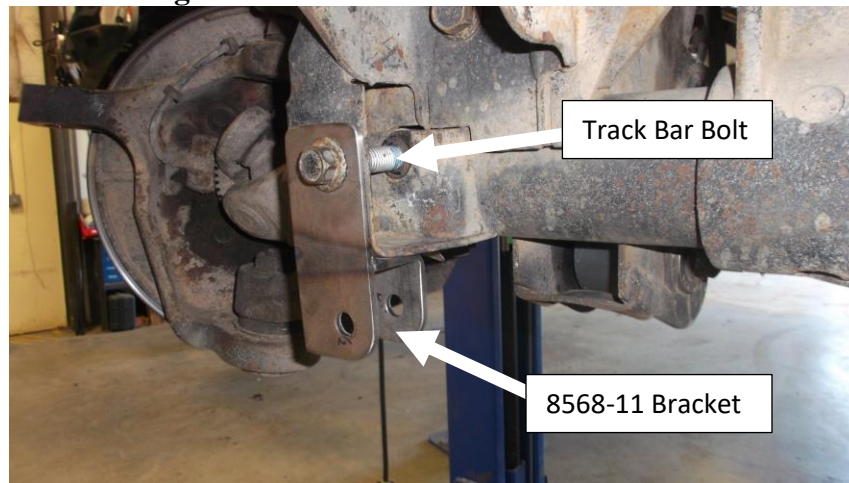

Figure 7. 8568-11 Steering Stabilizer Bracket Installed
10. Install the 8568-11 Stabilizer Bracket as shown. Re-install the axle side track bar bolt as shown below to align the bracket. **See Figure 7.**